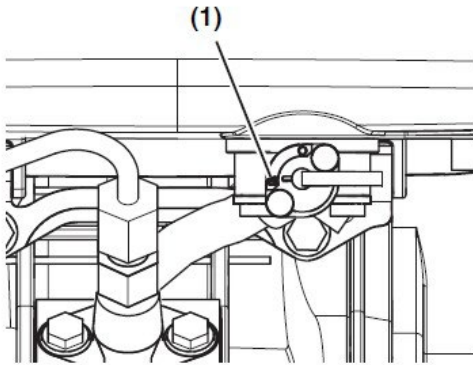

Figure 21
1. Move the fuel cock lever to the closed position (**Figure 21, (1)**).